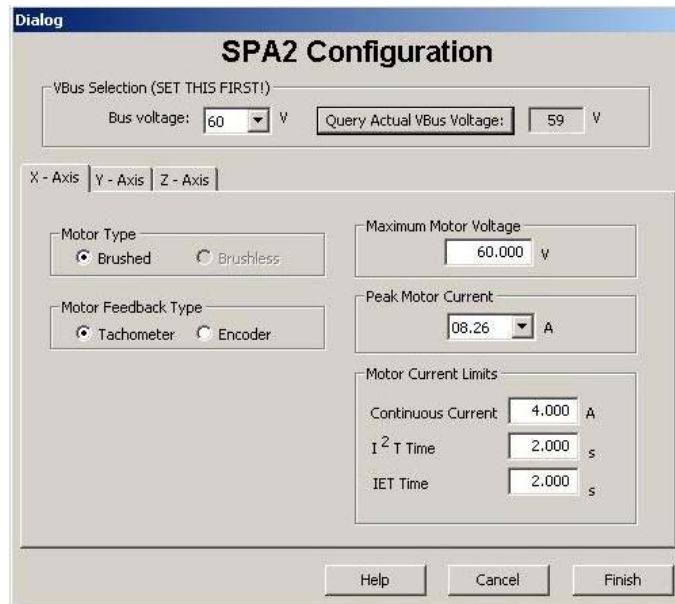

Figure 3
1. At this step, the following window will appear with the X axis screen presented (see figure 3 below):